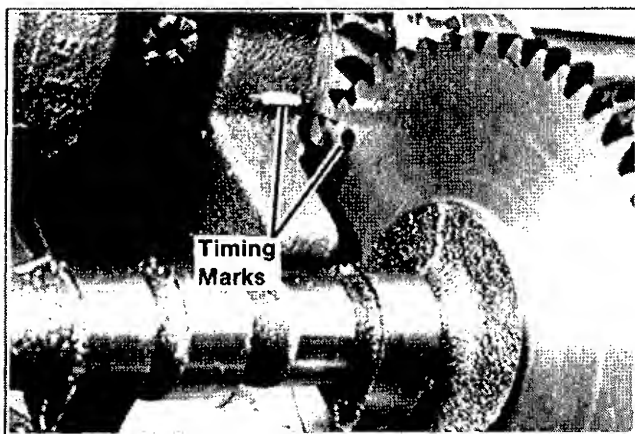

Figure 8-11. Match Timing Marks On Cam And Crank
2. Assemble camshaft into #1 side of case, making sure timing marks on cam gear align with timing marks on crankshaft (see Figure 8-11).